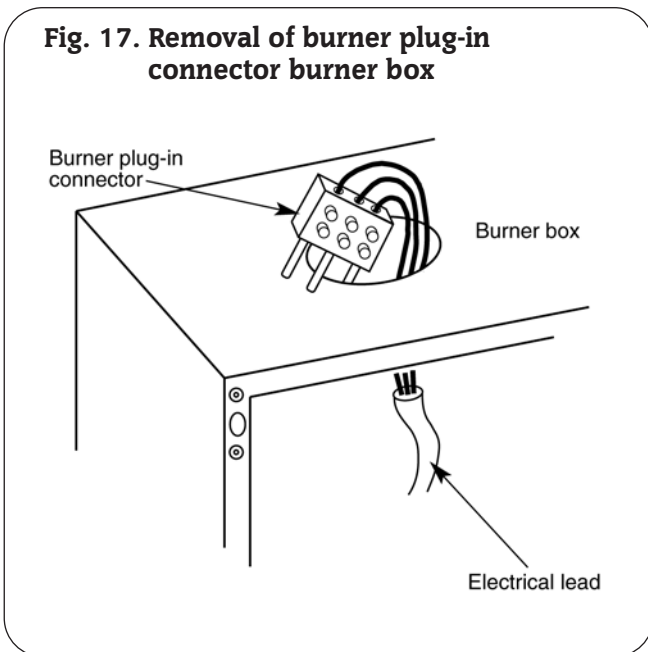

Fig. 17. Removal of burner plug-in connector burner box
3. Push the electrical lead grommet back through the burner surround box and feed the lead through the hole until the burner plug-in connector reaches the burner box. Insert one of the burner plug-in connector pins through the hole into the burner box as shown in Fig. 17. Gently push on top of the burner plug-in connector at the same time guiding the electrical cable through the hole.